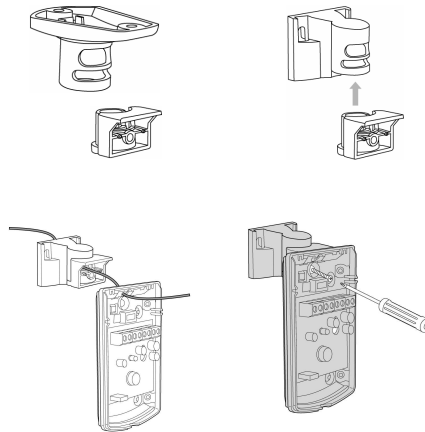

Fig. 6
The detector can either be wall or corner mounted. If ceiling or special wall mounting is required, use the optional bracket located on the PC board. Refer to bracket description. (See fig. 6).
5. Mount the detector base to the wall, corner or ceiling. (For bracket installation option see fig. 6).